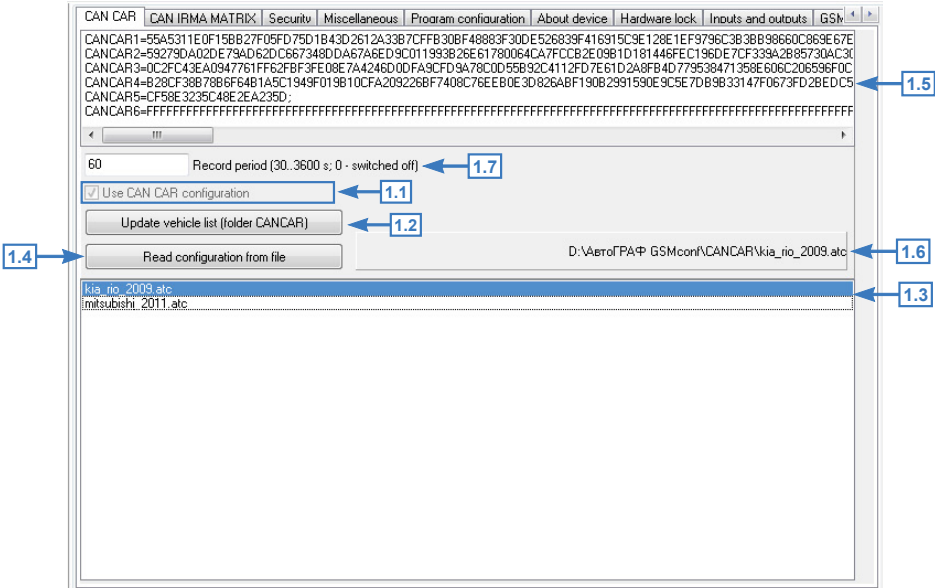

Fig.62. “CAN CAR” tab.
- Enable the “Use CAN CAR configuration” option on the “CAN CAR” tab (Fig.62, i.1.1).
- Press the “Update vehicle list (folder CANCAR)” button on the “CAN CAR” tab (Fig.62, i.1.2). The list of ATC-files available in the \CANCAR folder will be displayed on the tab (Fig.62, i.1.3).
- Select required file and press the “Read configuration from file” button (Fig.62, i.1.4). Parameters of CAN protocol from the selected file will be displayed in the program (Fig.62, i.1.5). Also you can drag and drop any ATC file in the program window.
- The file content is displayed as the list of remote configuration commands. Currently open file is displayed on the upper right of the list of available files (Fig.62, i.1.6).
- Specify a period of data recording from CAN bus in internal memory of AutoGRAPH controller in the “Record period” field (Fig.62, i.1.7). The period must be set in seconds. Minimum period is 30 seconds, maximum period is 3600 seconds. Zero period disables data recording from CAN bus.